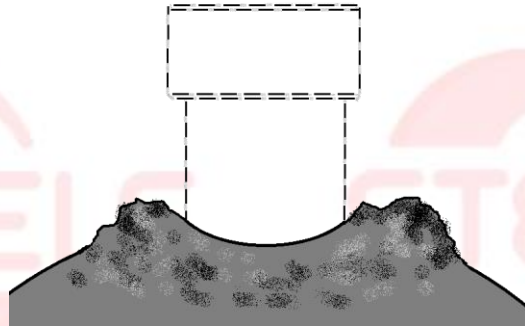

FIG 8: Deformation of the feed roll shaft due to the shear pin
The feed roll coupling shaft is designed so that there is a 0.001"-0.004" bore between the shaft and the coupling. This allows for a small degree of assembly misalignment. When a shear pin breaks, sometimes it can cause deformation in the shaft (Figure 8) or severe gouging of the coupling bore. If this is the case, the feed roll shaft and the coupling bore need to be flattened out before the coupling is tightened. If the feed roll shaft cannot be smoothed, it needs to be replaced. Deformation in the shaft can cause the coupling halves to clamp onto the shaft
- There should be no gap between the **coupling halves**. If the **couplings** clamp onto the **shaft** instead of onto each other, there is probably a problem with the **feed roll shaft** or **coupling bore** (Figure 8)